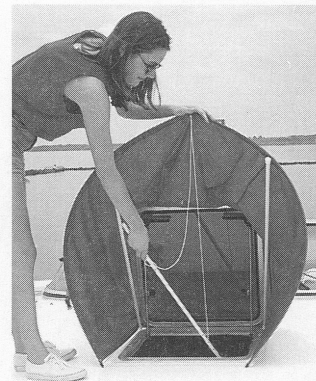

Figure 2
**STEP 4:** Press down on top of the frame, forcing the bows to bulge outward. (Fig. 2) With the other hand place the securing rod through the hatch opening and slowly release the downward pressure on top of the bows to wedge the rod against the cabin ceiling. (Fig. 2 & Fig. 3)